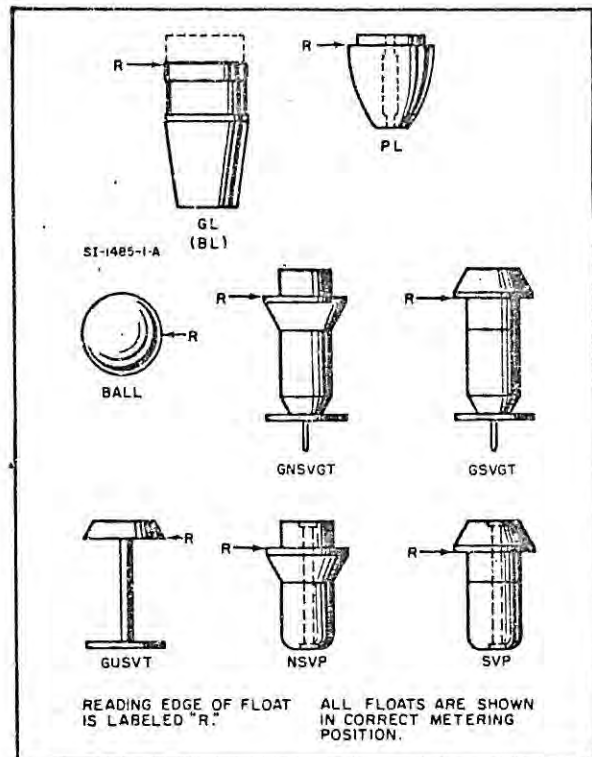

Fig. 5 - Float reading edges
Meter readings must be taken from the scale at the graduation that coincides with the reading edge of the float. Fig. 5 illustrates various types of floats and their reading edges.
2) Install the inlet float stop, the float, and the outlet float stop ($\frac{1}{2}$ " tube only) into the tube. Check Fig. 5 to see that the float is correctly oriented.